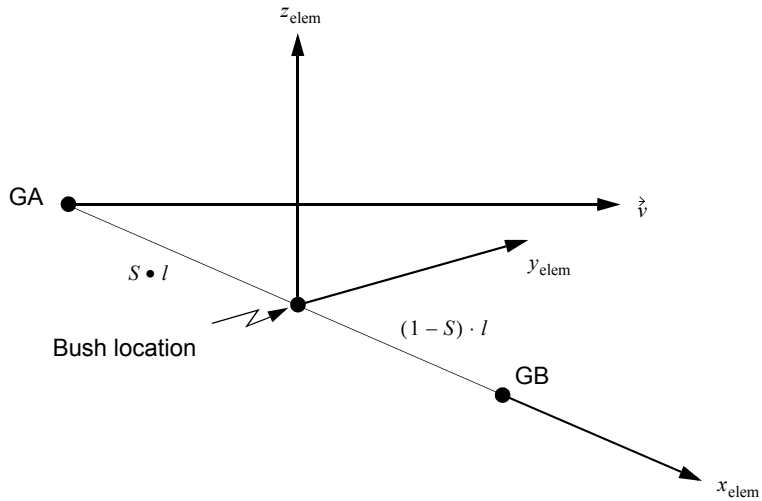

Figure 9-22 CBUSH Element
CID	Element coordinate system identification. A 0 value means the basic coordinate system will be used. If CID is blank, then the element coordinate system is determined from GO or Xi. See Figure 9-22 and Remark 3. (Integer ≥ 0 or blank)
OCID	Coordinate system identification of spring-damper offset. See Remark 9. (Integer ≥ -1 ; Default = -1, which means the offset point lies on the line between GA and GB according to Figure 9-22)
2. Figure 9-22 shows the bush element geometry.